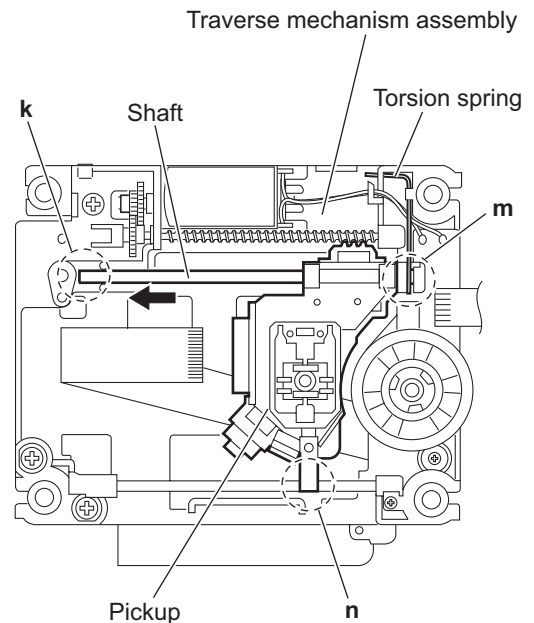

Fig.7
- Remove the shaft of the pickup from the section **k** on the traverse mechanism assembly and remove the shaft from the section **m** while moving it in the direction of the arrow. (See Fig.7.)
- Remove the pickup from the section **n** of the traverse mechanism assembly and take out the pickup with the shaft. (See fig.7.)
- (2) Align the pickup to the section **n** of the traverse mechanism assembly first and set the both ends of the shaft of the pickup in the sections (**k**, **m**) of the traverse mechanism assembly. (See Fig.7.)
When attaching the shaft to the section **m**, attach it under the torsion spring. (See Fig.7.)